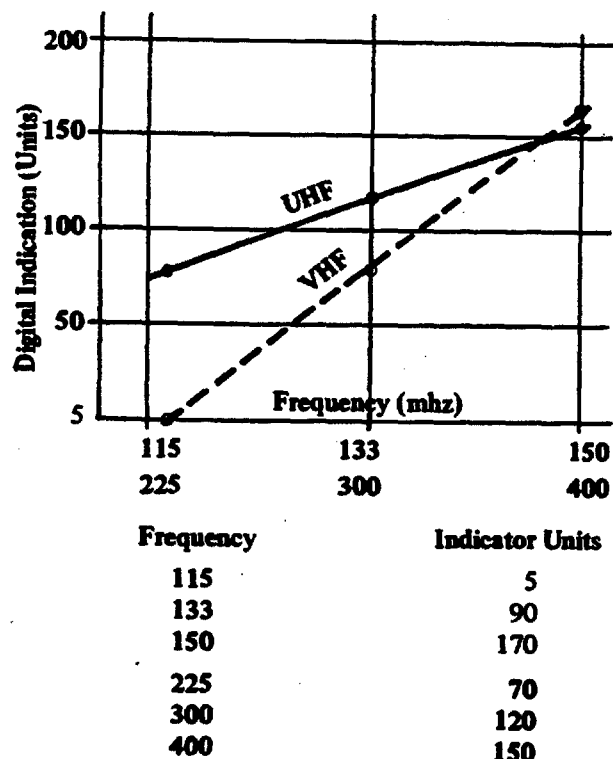

Figure 3-5. Frequency Vs. Digital Units
2. Key the transmitter as in 3-10.a.4. Tune the power amplifier OUTPUT TUNING control for a maximum FWD reading (see figure 3-5 for approximate readings on the OUTPUT TUNING INDICATOR). If at maximum the power amplifier FWD reading is between 5 and 40 (15 to 25 typical), continue with 3-12.e.3. If at maximum the FWD reading exceeds 40, or is less than 5, unkey the transmitter as in 3-10.a.6 and go to 3-12.e.6.